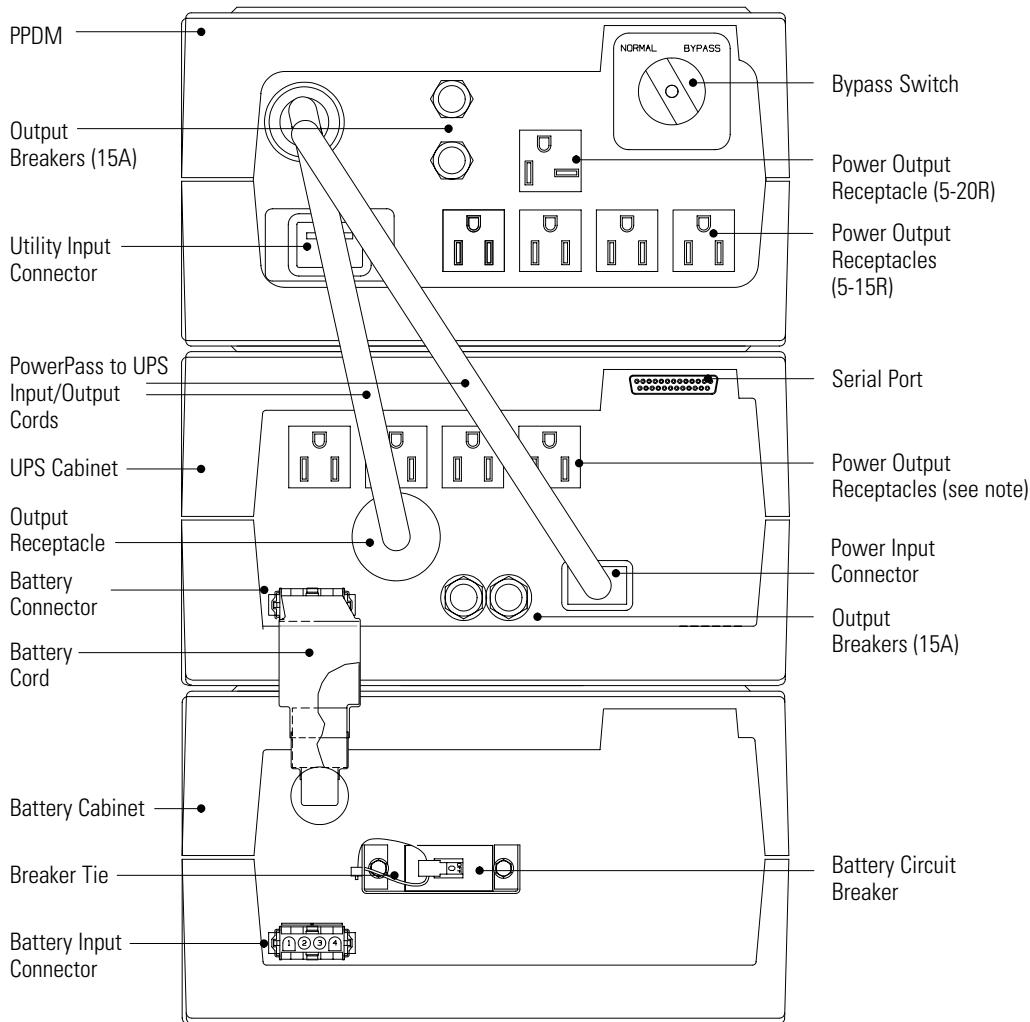

Figure 6. UPS with PPDM Rear Panel
3. Verify the circuit breaker on all battery cabinets is in the OFF (O) position (see Figure 6).
9. Plug the input and output cords of the PPDM into the power connectors on the UPS as shown in Figure 6.
2. Turn the Bypass switch on the PPDM rear panel to the NORMAL position (see Figure 6 on page 33).